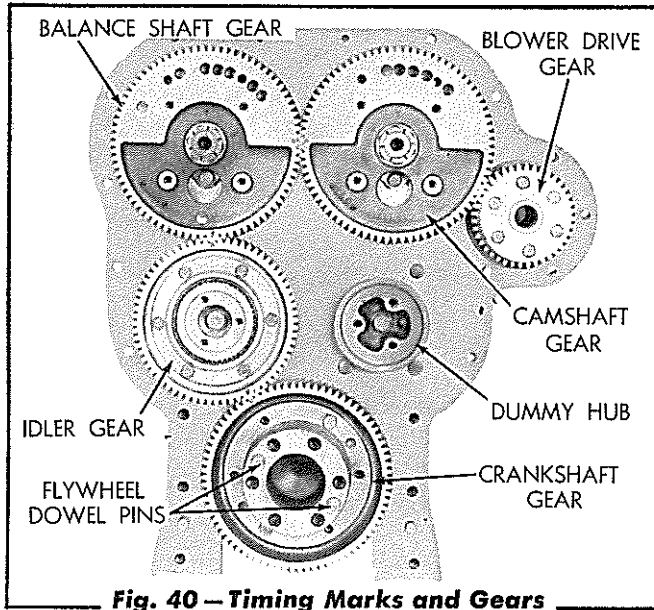

Fig. 40 — Timing Marks and Gears
1. Start the balance shaft, including the rear end bearing and gear assembly, into position in its bore at the rear end of cylinder block. Push the shaft into position to the point where the gear teeth are about to engage, then position the crankshaft, idler, and balance shaft gears so that the timing marks ("R") are adjacent, as shown in Fig. 40, and slide the balance shaft gear into mesh.
2. Secure the balance shaft rear end bearing to the cylinder block with three (3) lockwashers and capscrews. Tighten the cap-
1. Start the camshaft, including the gear assembly, rear end bearing, and intermediate bearings, into position at the rear end of the cylinder block. Push the shaft into position to the point where the gear teeth are about to engage the balance shaft gear, then revolve the gears if necessary so that the "O" timing marks on the cam and balance shaft gears will match, as shown in Fig. 40, and
Located at the rear end of the engine is a completely enclosed train of five (5) helical gears (19° helix angle), as shown in Fig. 40. A gear bolted to the crankshaft flange drives the camshaft and the balance shaft gears, as well as the blower and accessory drive gear, through an idler gear mounted between the crankshaft and the balance shaft gear.